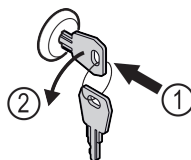

Fig. 167
- ▶ Insert the key. Fig. 167 (1)
- ▶ Turn the key anticlockwise by 90°. Fig. 167 (2)